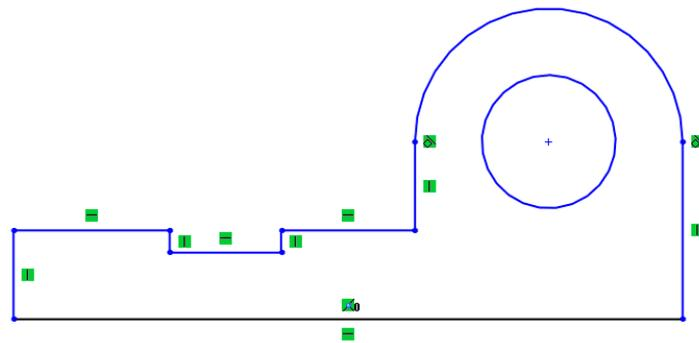

Figure 2-67 Final sketch for Tutorial 3
18. Choose the **Zoom to Fit** button from the **View (Heads-Up)** toolbar to fit the sketch into the screen. This completes the outer loop of the sketch. The sketch after drawing the outer loop appears, as shown in Figure 2-67.
The final sketch for Tutorial 3 is shown in Figure 2-67.